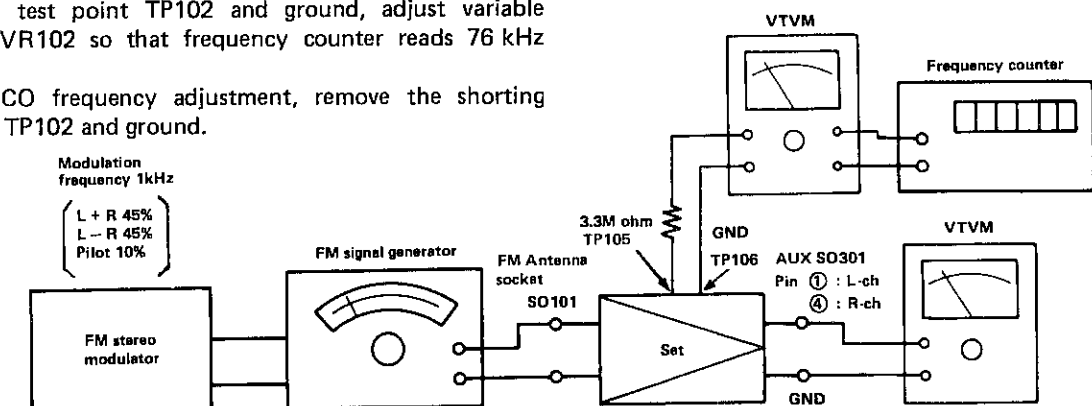

Figure 20-1
- Make connection of instruments as shown in Fig. 20-1.